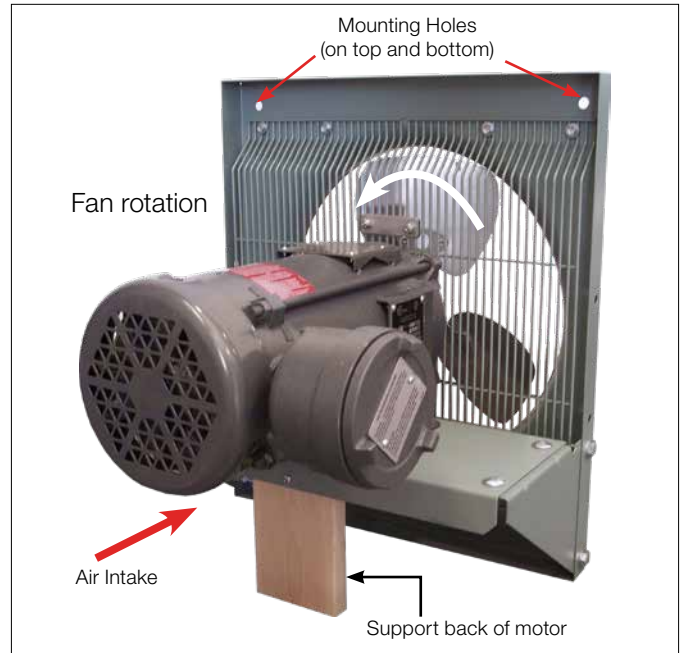

Figure 2
- 1.6 Ensure air exits through dampers and fan rotates counterclockwise when viewed from rear of fan (see Figure 2, page 8).